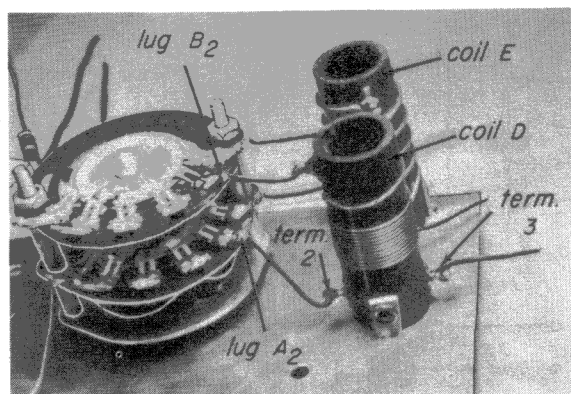

Fig. 21-7
Step 2. Mount coil D as shown in Fig. 21-7, using lock washers and nuts. Connect the wire from coil terminal 2 to switch lug A₂. Connect the wire from coil terminal 1 to switch lug B₂. Solder both connections. Your plate should now look like Fig. 21-7.